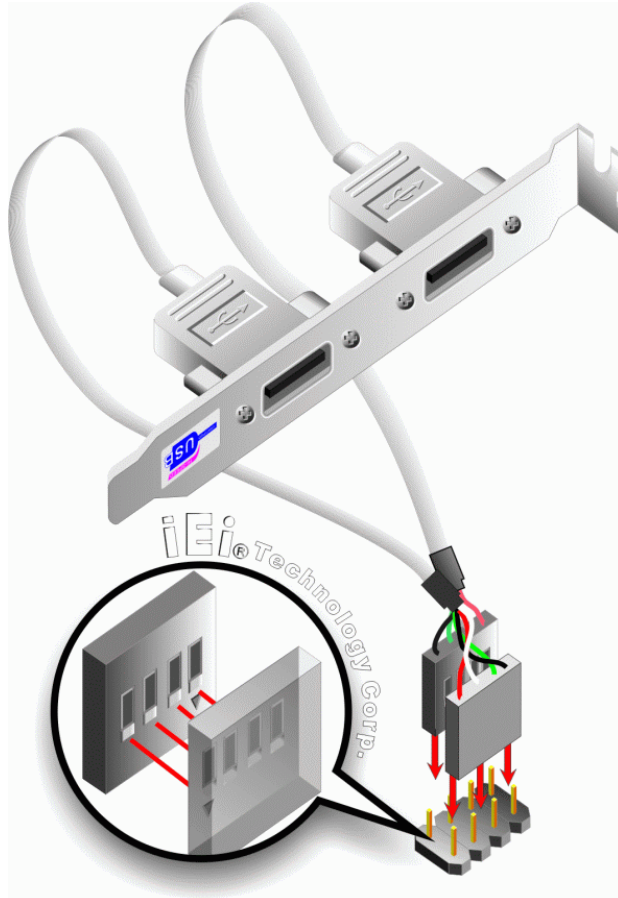

Figure 4-10: Dual USB Cable Connection
Step 3: Insert the cable connectors Once the cable connectors are properly aligned with the USB connectors on the WSB-PV-D4251/D5251, connect the cable connectors to the on-board connectors. See **Figure 4-10**.